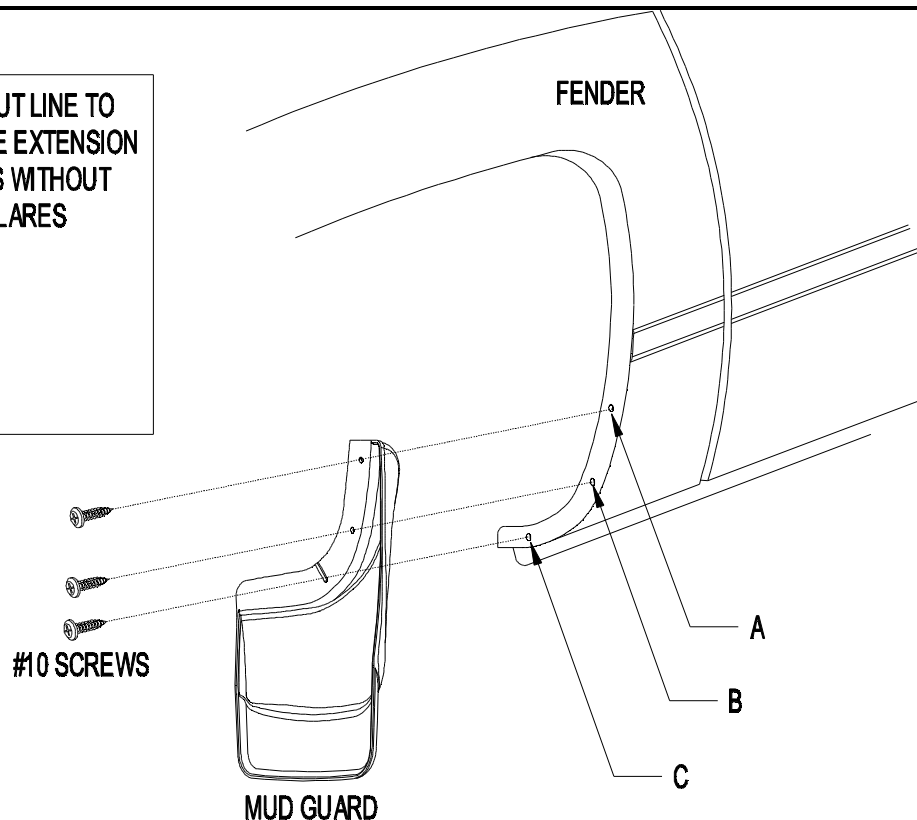

Figure 1
3. Using mud guard as a template mark location B on fender, center punch, drill 1/8" hole, and fasten mud guard to fender with a #10 screw (Figure 1). Check fit and level before tightening.